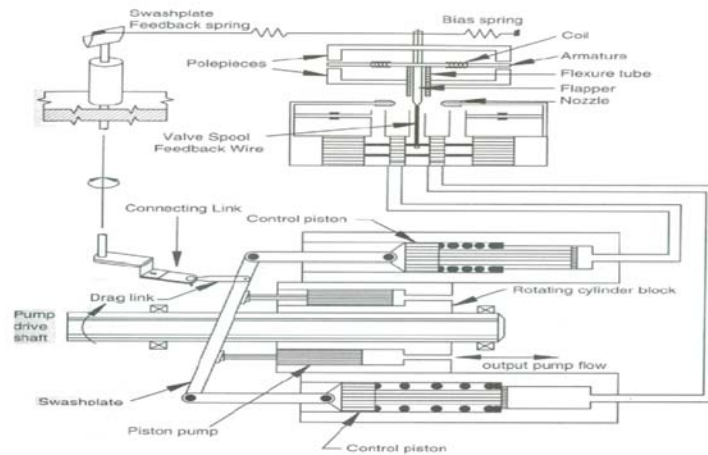

FIGURE 6.27 Servo pump operated with flapper nozzle torque motor.
- In the Servo pump shown in Fig 6.27, a torque motor is used to position the spool of the servo valve.